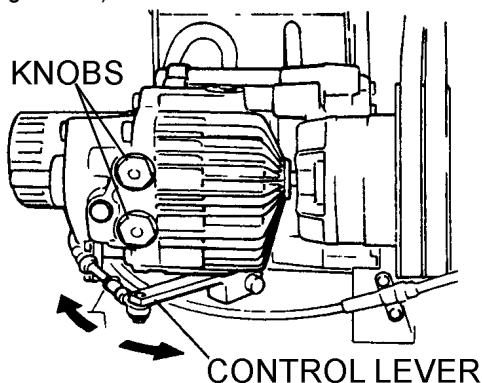

Figure 24. Disengaging Hydraulic Brake
1. If you need to move the roller by pushing it manually once engine is stopped, push in the upper and lower knobs of the transmission check valve. This will cause the hydraulic break to disengage and allow the roller to be moved without causing damage (Figure 24).